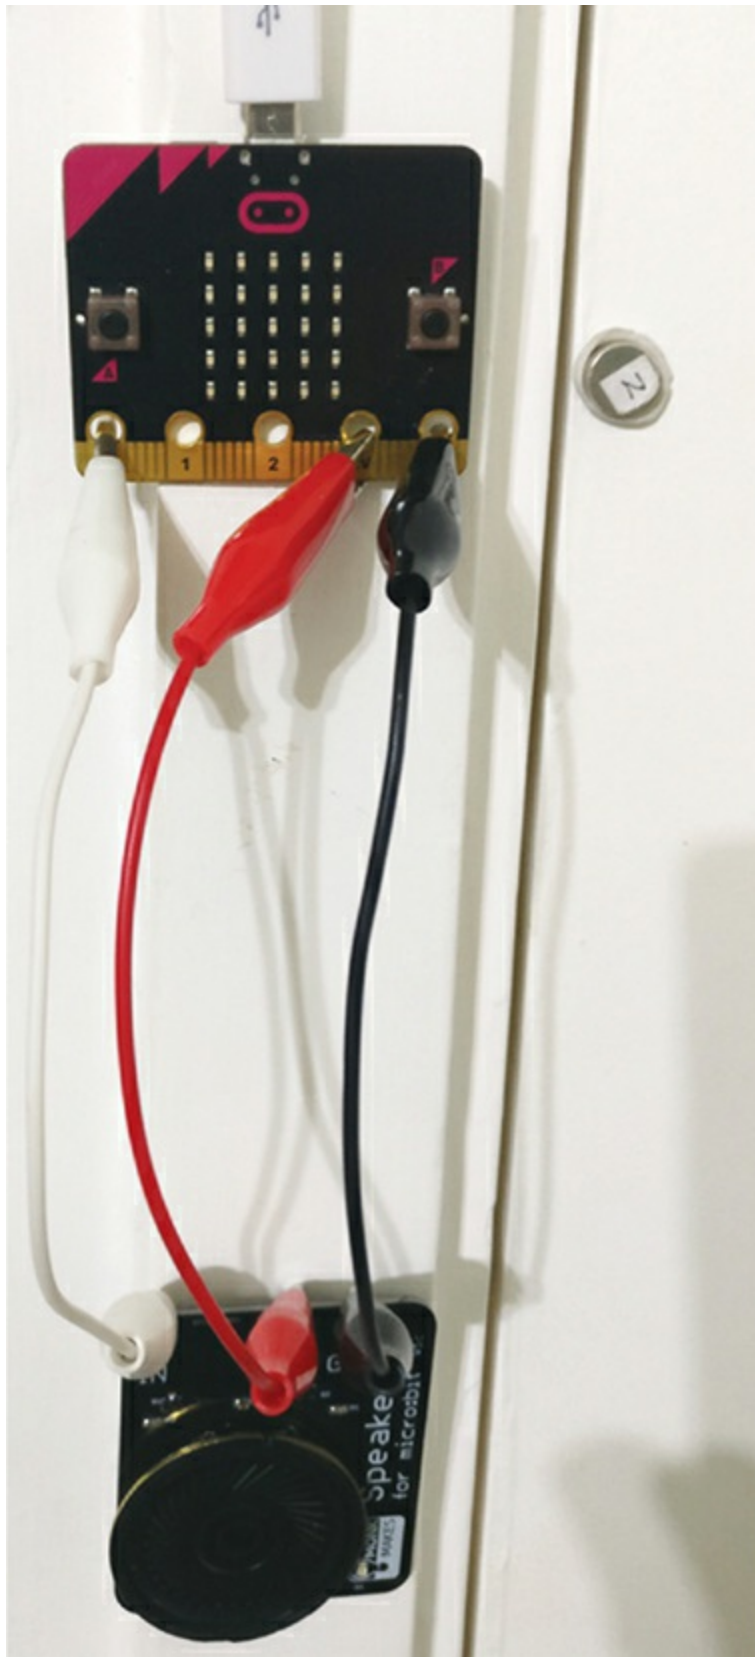

Figure 4-9: A magnetic door alarm
Figure 4-9 shows the project attached to the Mad Scientist’s door.
1. Connect the speaker to the micro:bit using the three alligator cables, as shown in Figure 4-9.